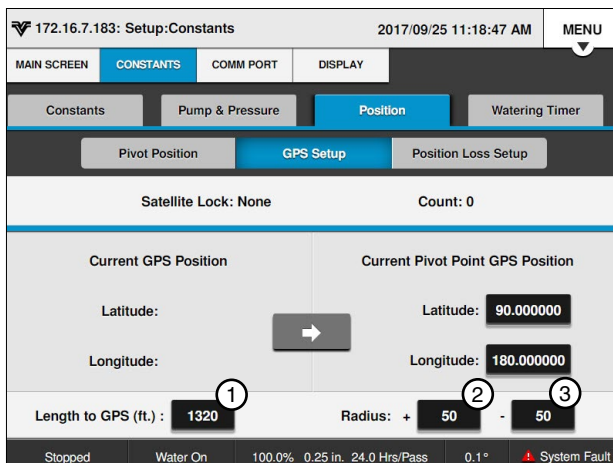

Figure 30-1 GPS Screen
1. Push **Menu, Setup, Constants, Position** and **GPS Setup** to display the GPS Setup screen. Refer to Figure 30-1.
3. Using the numeric keypad, enter the length from the pivot point to the GPS antenna or GPS tower box. Do not enter the pivot length. The default is 1320 ft (402.3 m), and the range is 10 to 6554 ft (3.0 to 1997.6 m). Refer to Figure 30-1.
6. Using the numeric keypad, enter the Plus tolerance for the length outside the GPS antenna that the panel will accept satellites. The Default is 50 ft (15.2 m) and the range is 10 to 6554 ft (3.0 to 1997.6 m). A setting of 50 ft (15.2 m) or more is recommended to allow for variation in the GPS signal if Wide Area Application Services (WAAS) is unavailable. Refer to Figure 30-1.